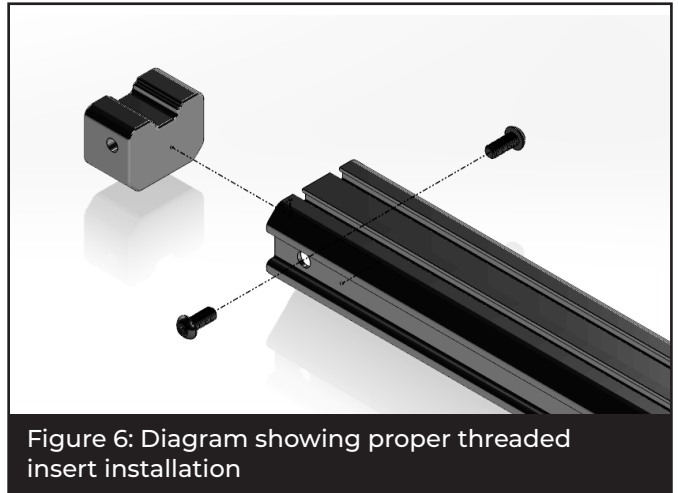

Figure 6: Diagram showing proper threaded insert installation
**11** Locate the four support tubes. Slide CoreTec threaded insert into tube. The offset threaded holes should be towards the inside of the rail (Figure 6). Fasten it into place using 3/8" x 5/8" bolts. When properly installed, the CoreTec insert should be flush with the end of the tube.